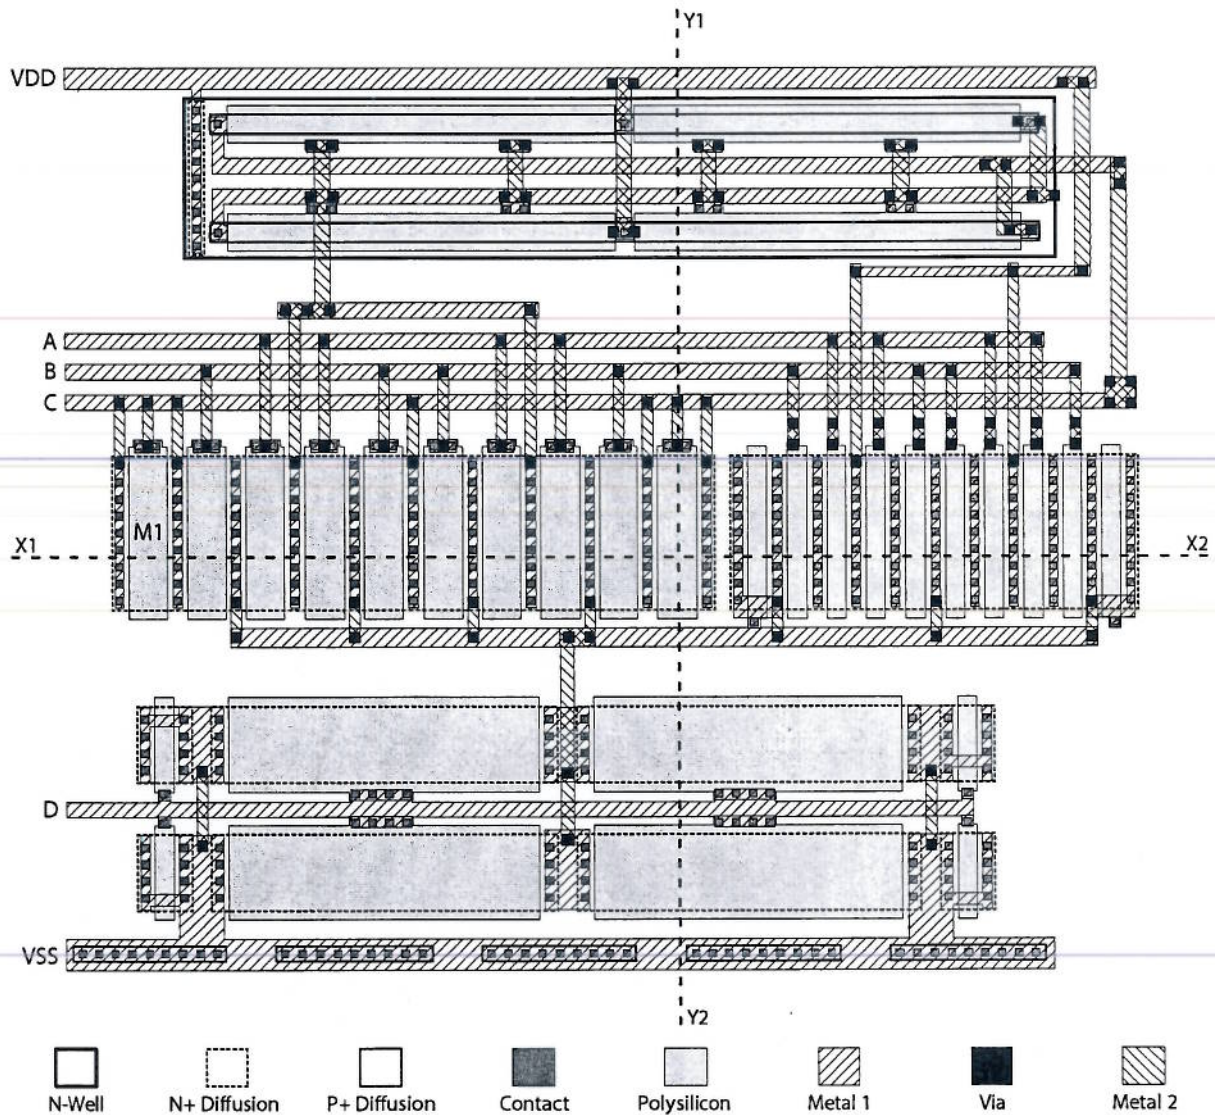

Figure 1.1
1. A full-custom layout design is shown below in Figure 1.1 for an integrated circuit implemented in a commercially available 0.18 μm 1P6M CMOS technology (only 2 metal layers used in design).